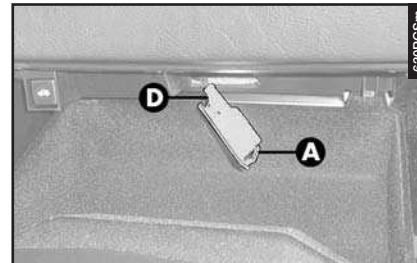

fig. 76
- Remove the light pushing with a screwdriver on the tab (**A**-fig. 76)
— Re-install the light inserting it in the correct position firstly on one side (**D**-fig. 76) and then pushing on the other until the tab clicks.